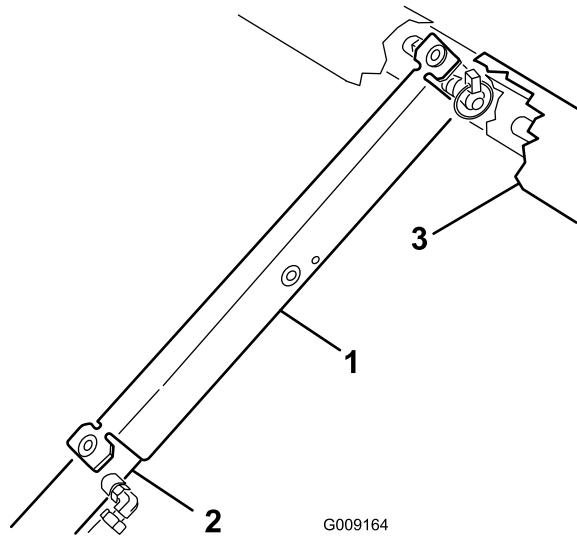

Figure 13
3. Push the bed support onto the cylinder rod, and ensure that the support end tabs rest on the end of the cylinder barrel and cylinder-rod end (Figure 13).